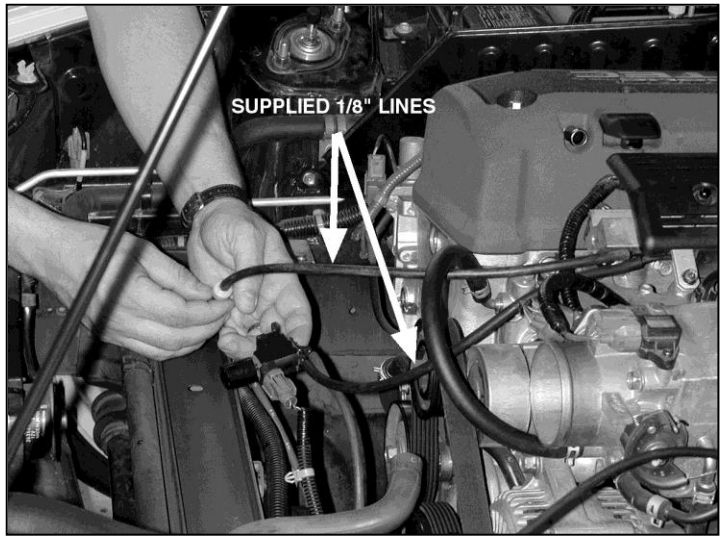

Fig.6
- g. Replace the factory Air Control Solenoid Valve vacuum lines with the supplied 1/8" lines, as shown. **(Fig. 6)**